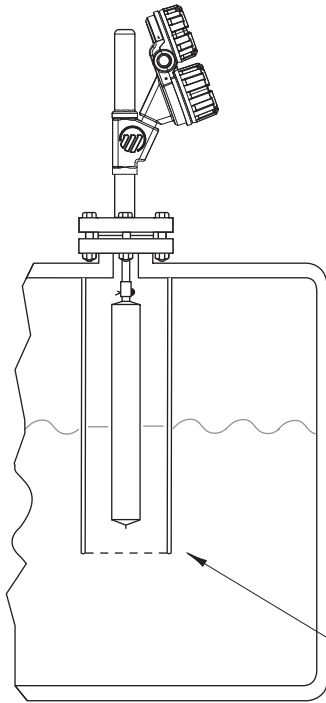

Figure 7
- A stilling well is installed for applications where continuous agitation is present. The stilling well must be vertically level so as not to restrict displacer movement. See Figure 7 for a typical stilling well installation.